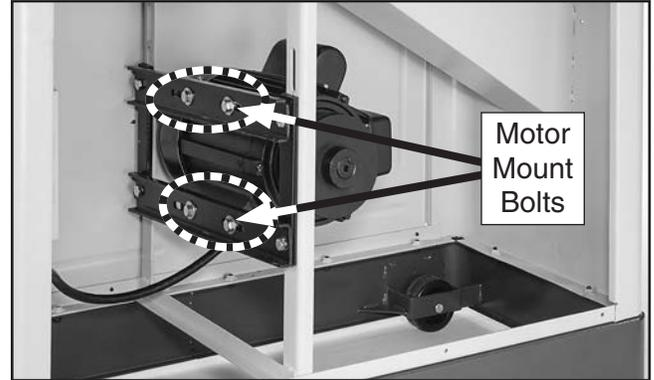

Figure 20. Location of motor mount bolts.
- If pulleys are not aligned, loosen four motor mounting bolts shown in **Figure 20**, shift motor horizontally to align pulleys, then retighten bolts.